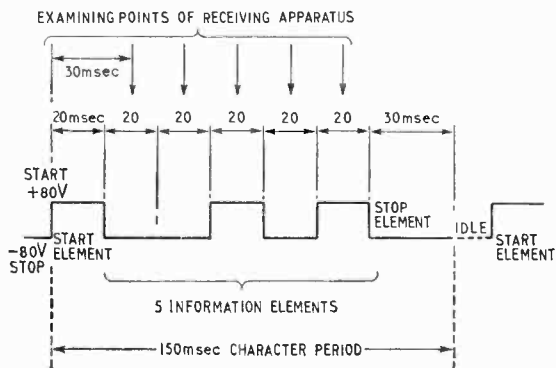

Fig. 1. Character J shown represented as MMSMS, ZZAZA or 11010, together with start and stop elements.
**Start-Stop Operation:**—In the start-stop method of transmission, illustrated in Fig. 1, the five information elements are of equal duration and are transmitted in order, preceded by a start element of the same duration, and followed by a stop element. The